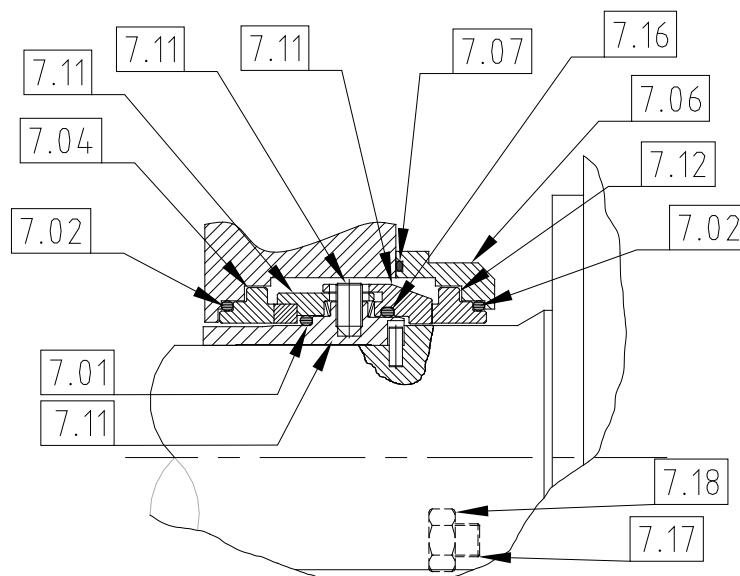

Fig 43 Double Flushed Mechanical Seal for CP50
- Refer to Fig 43 for Double flushed mechanical seal for CP50.